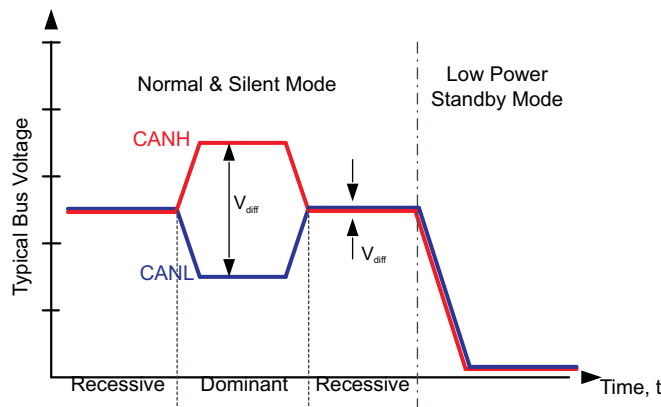
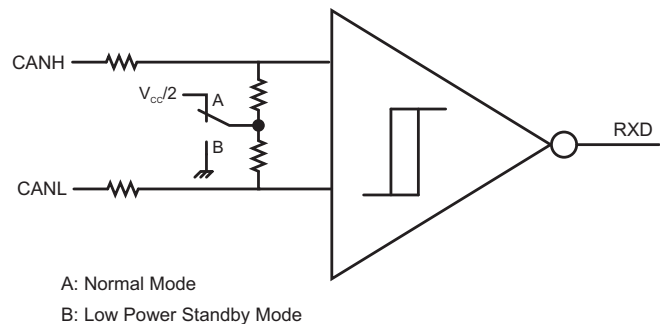

Figure 1. Bus States (Physical Bit Representation)
Figure 2. Simplified Common Mode Bias and Receiver Implementation
This is the low power mode of the device. It is selected by setting STB high. The CAN driver and receiver are turned off and bi-directional CAN communication is not possible. There is no wake up capability in the SN65HVDA540, the RXD pin will remain recessive (high) while the device is in standby mode. This state is supplied via the V_{IO} supply, thus the V_{CC} (5V) supply may be turned off for additional power savings at the system level. The local protocol controller (MCU) should reactivate the device to normal mode to enable communication via the CAN bus. The 5 V (V_{CC}) supply needs to be reactivated by the local protocol controller to resume normal mode if it has been turned off for low-power standby operation. The CAN bus pins are weakly pulled to GND, see Figure 1 and Figure 2.
This is the low power mode of the device. It is selected by setting STB high. The CAN driver and main receiver are turned off and bi-directional CAN communication is not possible. The low power receiver and bus monitor, both supplied via the V_{IO} supply, are enabled to allow for RXD wake up requests via the CAN bus. The V_{CC} (5V) supply may be turned off for additional power savings at the system level. A wake up request will be output to RXD (driven low) for any dominant bus transmissions longer than the filter time t_{BUS} . The local protocol controller (MCU) should monitor RXD for transitions and then reactivate the device to normal mode based on the wake up request. The 5 V (V_{CC}) supply needs to be reactivated by the local protocol controller to resume normal mode if it has been turned off for low-power standby operation. The CAN bus pins are weakly pulled to GND, see Figure 1 and Figure 2.
- (1) H = high level, L = low level, X = irrelevant, Y = common mode bias to GND, Z = common mode bias to $V_{CC}/2$. See Figure 1 and Figure 2 for common mode bias information.
- (2) SN65HVDA540/541 have internal pull up to V_{IO} on STB pin. If STB pin is open the pin will be pulled high and the device will be in standby mode.
- (3) SN65HVDA542 has internal pull down to GND on S pin. If S pin is open the pin will be pulled low and the device will be in normal mode.
Both of the supply pins have undervoltage detection which place the device in forced standby mode to protect the bus during an undervoltage event on either the V_{CC} or V_{IO} supply pins. If V_{IO} is undervoltage the RXD pin is tri-stated and the device does not pass any wake-up signals from the bus to the RXD pin. Since the device is placed into forced standby mode the CAN bus pins have a common mode bias to ground protecting the CAN network, see Figure 1 and Figure 2.
(1) See Figure 1 and Figure 2 for common mode bias information.